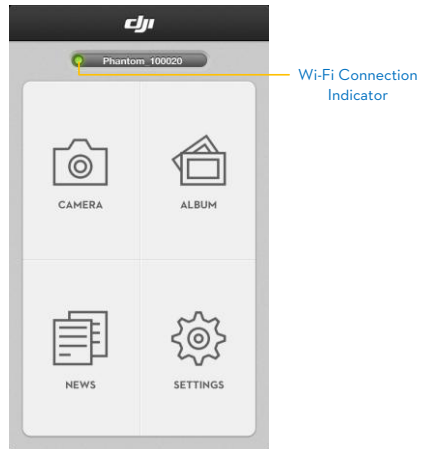

Figure 47
4. (Figure47) Run the DJI VISION App on your mobile device. When the Wi-Fi connection indicator on the App main menu goes green, the connection is good.